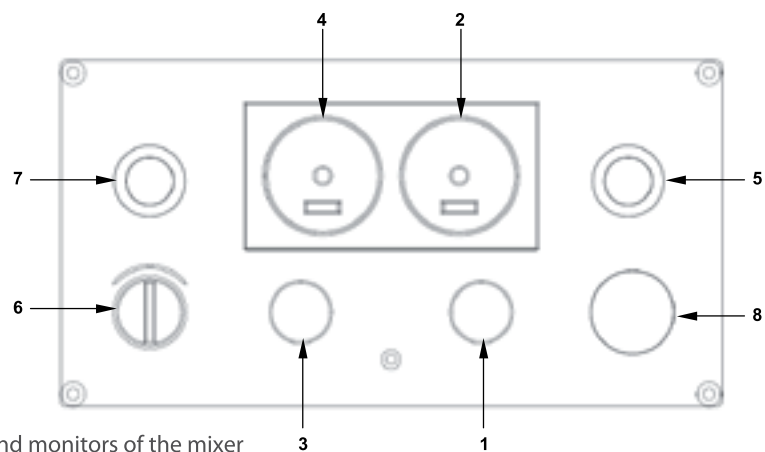

Figure 2 - Controls and monitors of the mixer
- Lay the column pos. 1 on the bottom of the bowl and push it below the head so as to align it through holes of the plate pos. 5 with the corresponding threaded holes pos. 6 under the head pos. 4.
- Insert the screws through holes pos. 2 and screw them alternately, but without tightening them.
- Visually check that the column pos. 1 is parallel to the axis of the spiral pos. 7, then firmly tighten the screws pos. 2 always checking the parallel position of the column with the axis of the spiral. To do this use a torque wrench set to 46 Nm.
- Turn on the machine and be ready to press the emergency button pos. 8 Figure 2 and start in speed 1. Check that the spiral pos. 7 does not hit the column pos. 1 during the rotation. If it does press the emergency stop button and process.